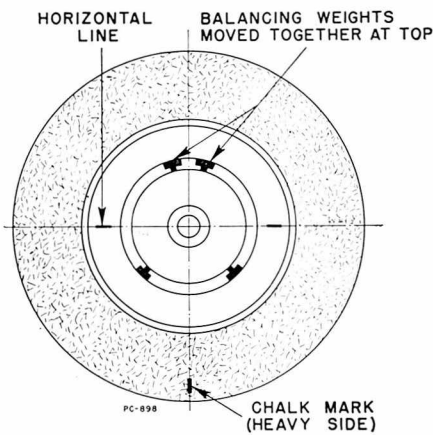
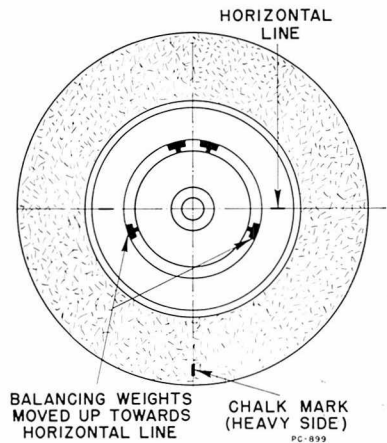

Figure 23
Figure 24
4. Remove the four sliding balancing weights from the flange and allow the wheel to turn until it has come to rest with the heavy side down. Mark this heavy point with a chalk mark and also mark a horizontal line through the wheel axis (Figure 23).
6. Move the two top weights towards one another, as in Figure 23, until arriving at conditions of perfect balance. If, when the two top weights are moved towards one another until they touch, the wheel is still out of balance, it will then be necessary to move the two lower weights up towards the horizontal chalk mark until the wheel is in balance, as in Figure 24.